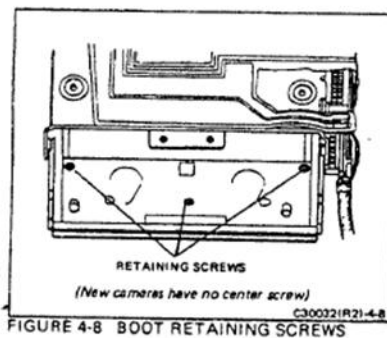

FIGURE 4-8 BOOT RETAINING SCREWS
7. Remove the inner-frame-to-boot-retainer screws (see Figure 4-8).
6. Remove the inner frame to boot retainer screws (refer to Figure 4-8).